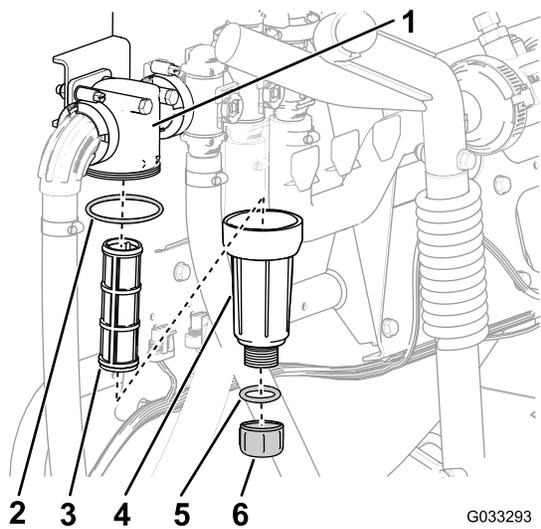

Figure 31
- Align a drain pan under the pressure filter (Figure 31).
3. Rotate the drain cap counterclockwise and remove it from the bowl of the pressure filter (Figure 31).
4. Rotate the bowl counterclockwise and remove the filter head (Figure 31).
5. Remove the pressure filter element (Figure 31).
7. Check the gasket for the drain plug (located inside the bowl) and the gasket for bowl (located inside the filter head) for damage and wear (Figure 31).
8. Install the pressure filter element into the filter head (Figure 31).
9. Install the bowl onto the filter head, and tighten by hand (Figure 31).
10. Assemble the drain cap onto the fitting at the bottom of the bowl, and tighten the cap by hand (Figure 31).